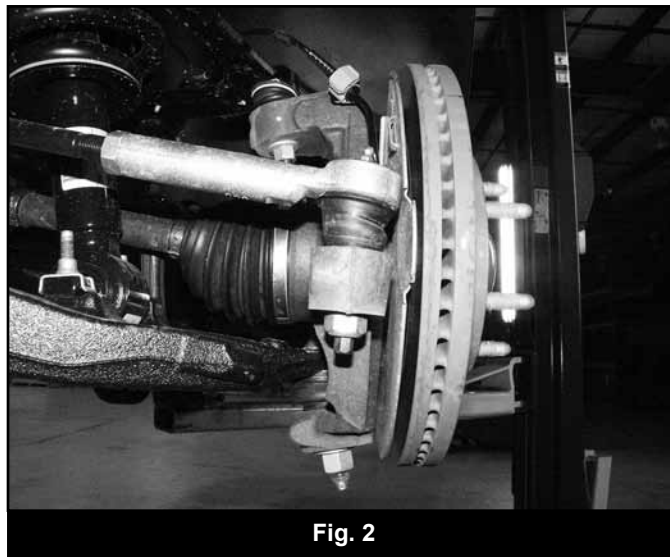

Fig. 2
7. Disconnect the steering from the knuckle (Fig 2). Remove the tie rod end nut. Strike the knuckle near the tie rod end with a hammer to dislodge it. Retain the mounting nut.